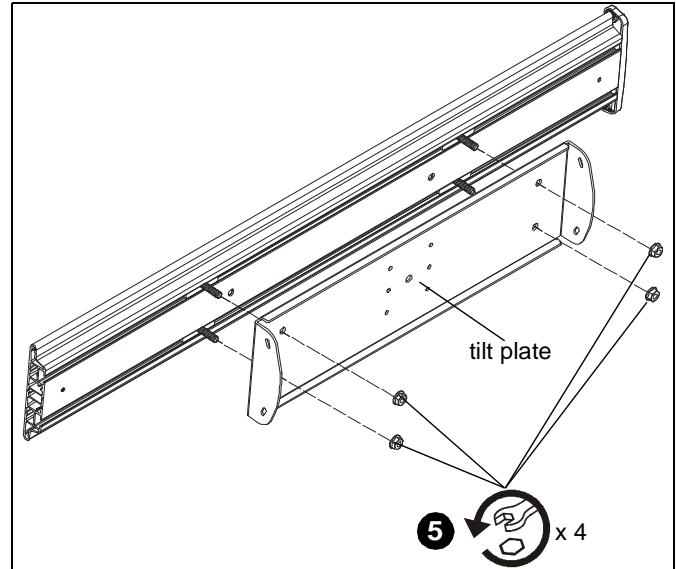

Figure 3
5. Remove four nuts holding interface head assembly to XPAU column assembly to remove head assembly. (See Figure 3)